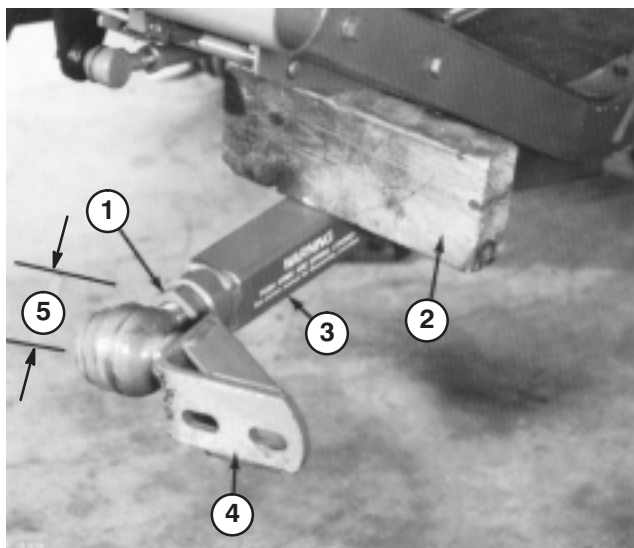

Figure 13
3. Have a helper push down on the left push arm. Then insert a 2 x 4 in. (51 x 102 mm) block of wood between the frame and top of the push arm (Fig. 13). Screw ball joint into left hand push arm until center of ball joint is 2-3/8 in. (60 mm) away from front of push arm (Fig. 13). Do not tighten jam nut.